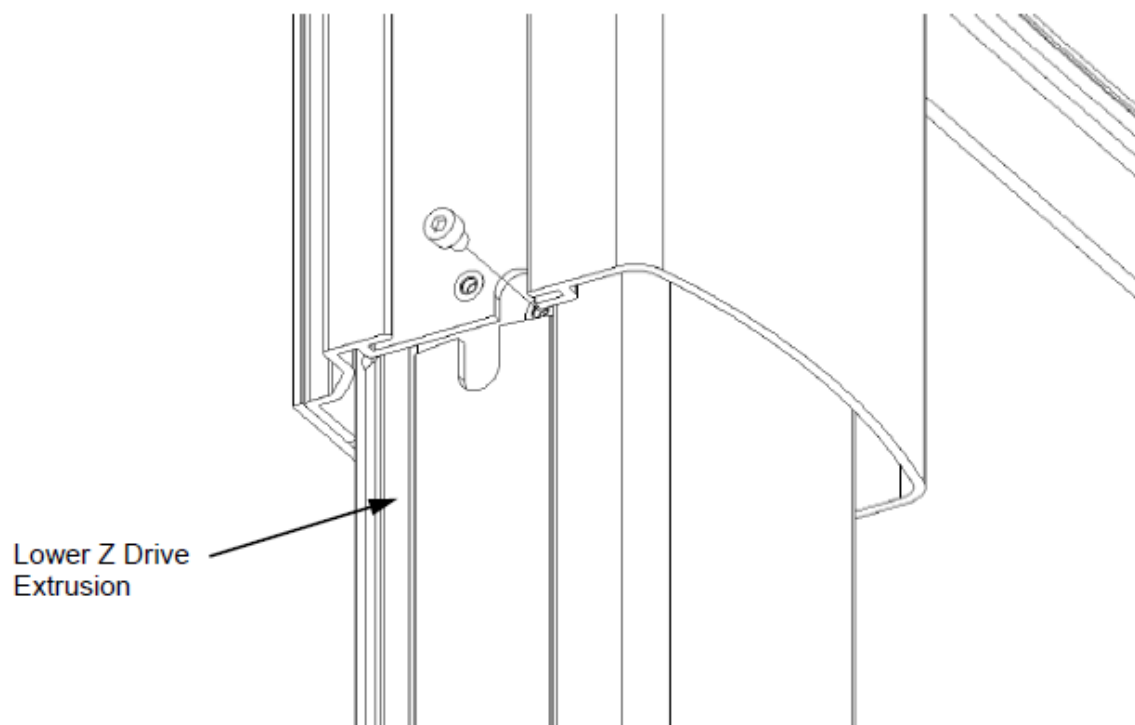

Figure Z-6: Securing the Lower Z Drive Extrusion
7. Lift the left hand Cover Strip to expose the Flex Cable and Rotator PCB. Disconnect the Flex Cable to the PCB and raise the Cover Strip. Then, remove the screw that secures it to the lower Z drive extrusion (Figure Z-6). When rebuilding, secure the screw with Loctite 222.